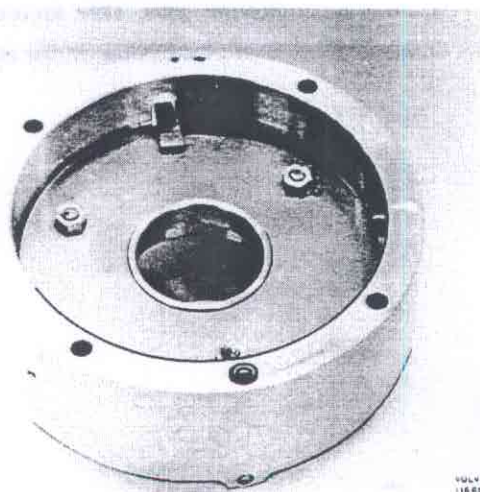

Fig. 48-25. Fitting the O-ring
8. Place a new O-ring on the control housing, see Fig. 48-25. Assemble the control housing to the housing half. Make sure that the air duct is located properly.